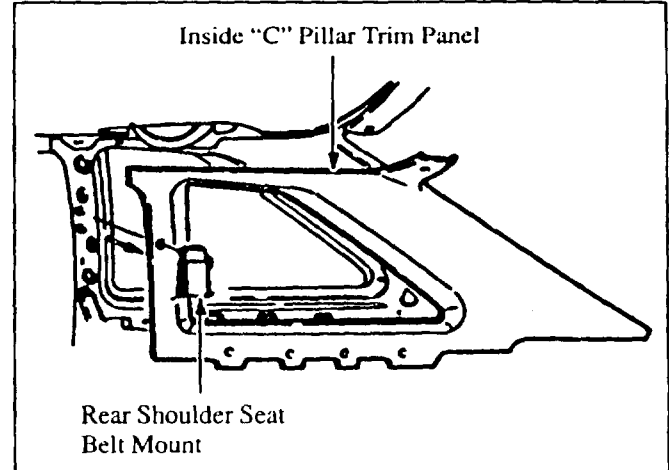

Figure 30: Removing Inside "C" Pillar Trim Panel
1. Remove rear header trim, rear shoulder mounts, and inside "C" pillar trim panel(s). **Figure 30.**
1. Remove the rear header trim, rear shoulder seatbelt mounts, and inside "C" pillar trim panel(s). **Figure 30.**